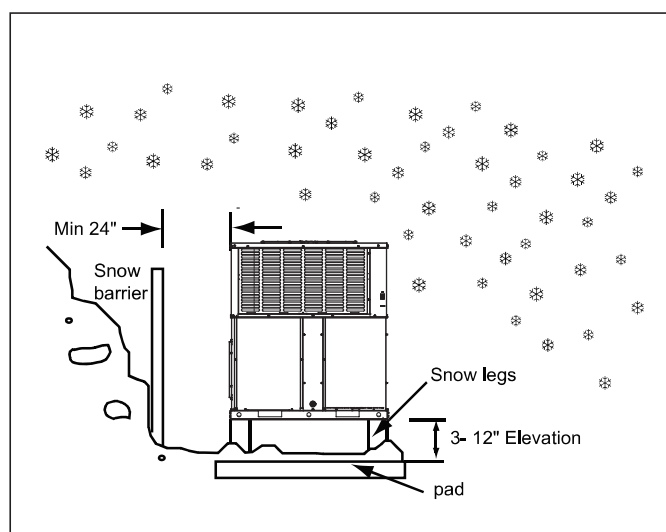

Figure 11
- Units should be elevated 3-12 inches above the pad or rooftop, depending on local weather. This additional height will allow drainage of snow and will permit condensate water to drain when the unit is in defrost mode. Ensure that drain holes in unit base pan are unobstructed, preventing drainage of defrost water (See Fig.11).